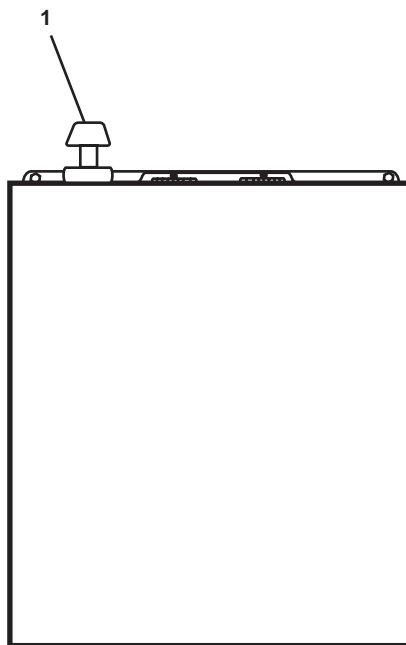

Figure 6. Bow Thruster Shaft Brake Plunger
- a. Pull UP on the shaft brake plunger (figure 6, item 1), located just forward of the bow thruster engine, so that the bow thruster can rotate freely.
- f. Wait until the bow thruster engine stops completely, then push the shaft brake plunger (figure 6, item 1) down to lock the bow thruster shaft.